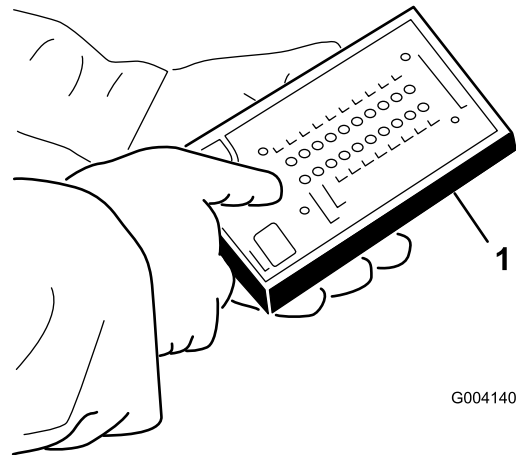

Figure 48
5. Connect the Diagnostic ACE display connector to the harness connector (Figure 48).